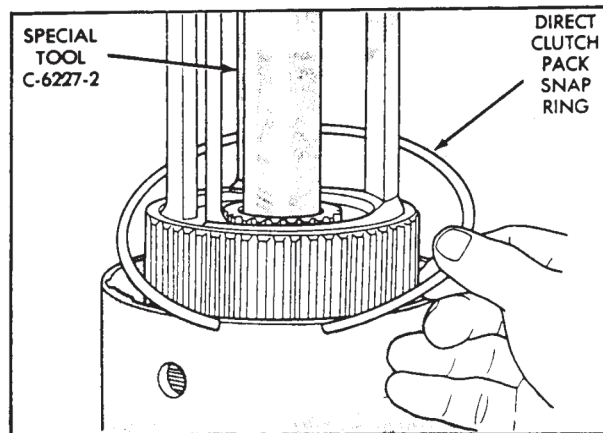

Figure 20
30. Install the direct clutch snap ring, as shown in Figure 20, and **"Ensure"** that snap ring is fully seated in snap ring groove.